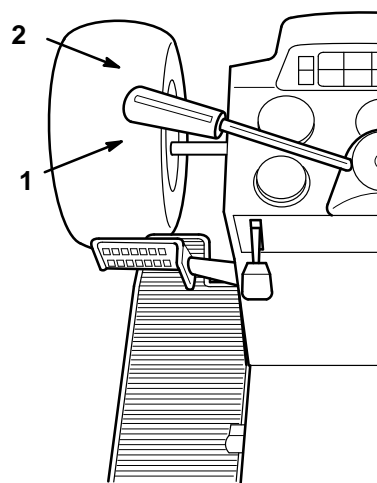

Figure 25
The attachment power lift (optional on some models) (Fig. 25) is used to raise and lower attachments.
2. Move the lift lever in the “UP” direction to raise the attachment lift (Fig. 25). This will lift and hold the attachment in the up, or raised position.
2. Move the lift lever in the “DOWN” direction to lower the attachment lift (Fig. 25). This will lower the attachment lift.